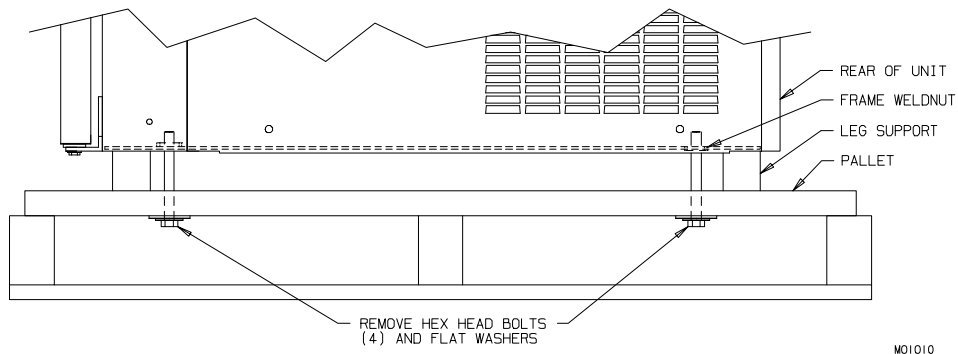
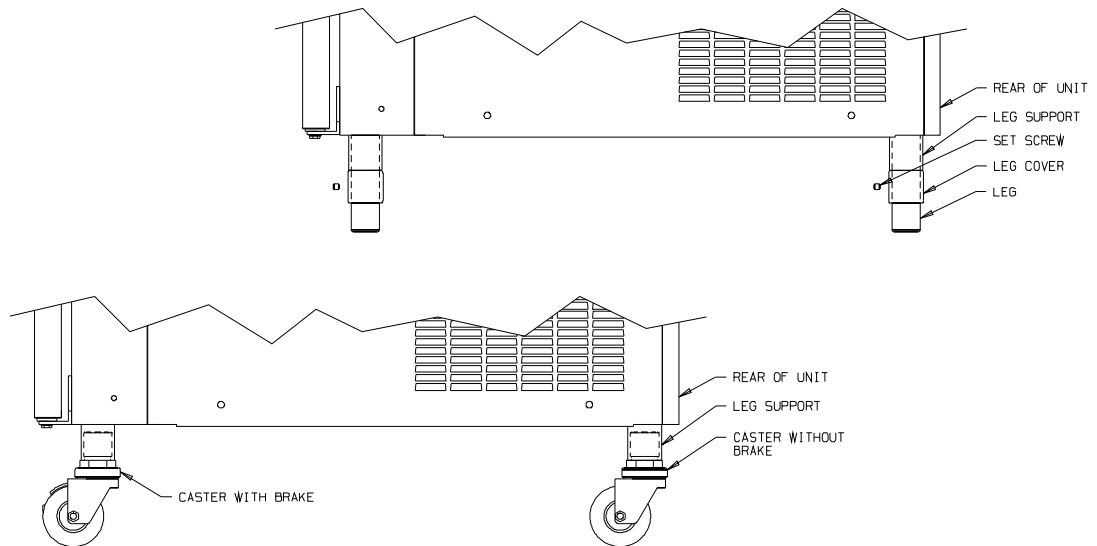

Figure 2-1 Bolted to pallet
Figure 2-2 Install mounting legs
2. Remove the shipping bolts on the bottom of the freezer (figure 2-1) and install either the legs or casters (figure 2-2).